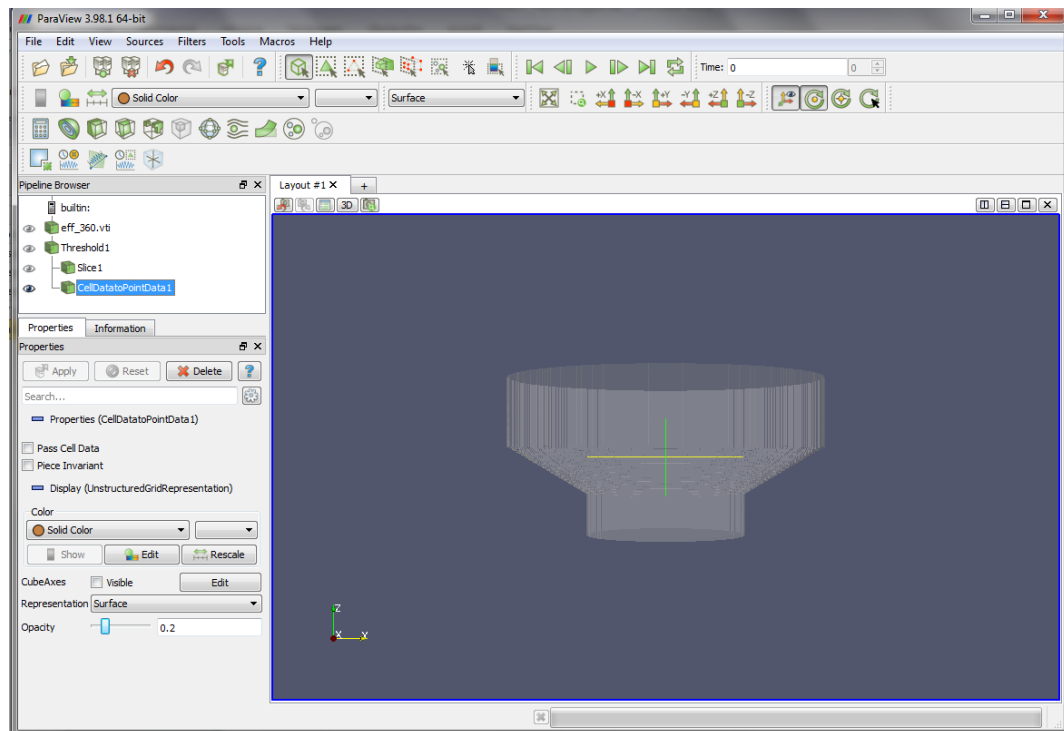

Figure 6.3-1: Converting cell data to point data.
- The Substance data are hidden and the **Cell Data to Point Data** set is shown in the viewer window using the solid color. Let's use the **Opacity** slider and set it to some small value (say 0.2) for now (see Figure 6.3-1).